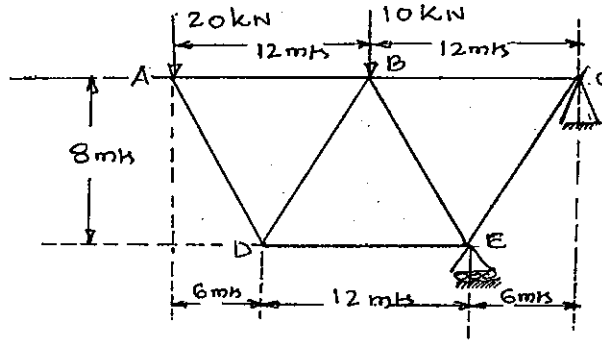

Fig.Q1(c)
- c. Determine the magnitude and nature of forces in all the members of the pin-jointed plane truss shown in Fig.Q1(c), by the method of joints. (14 Marks)